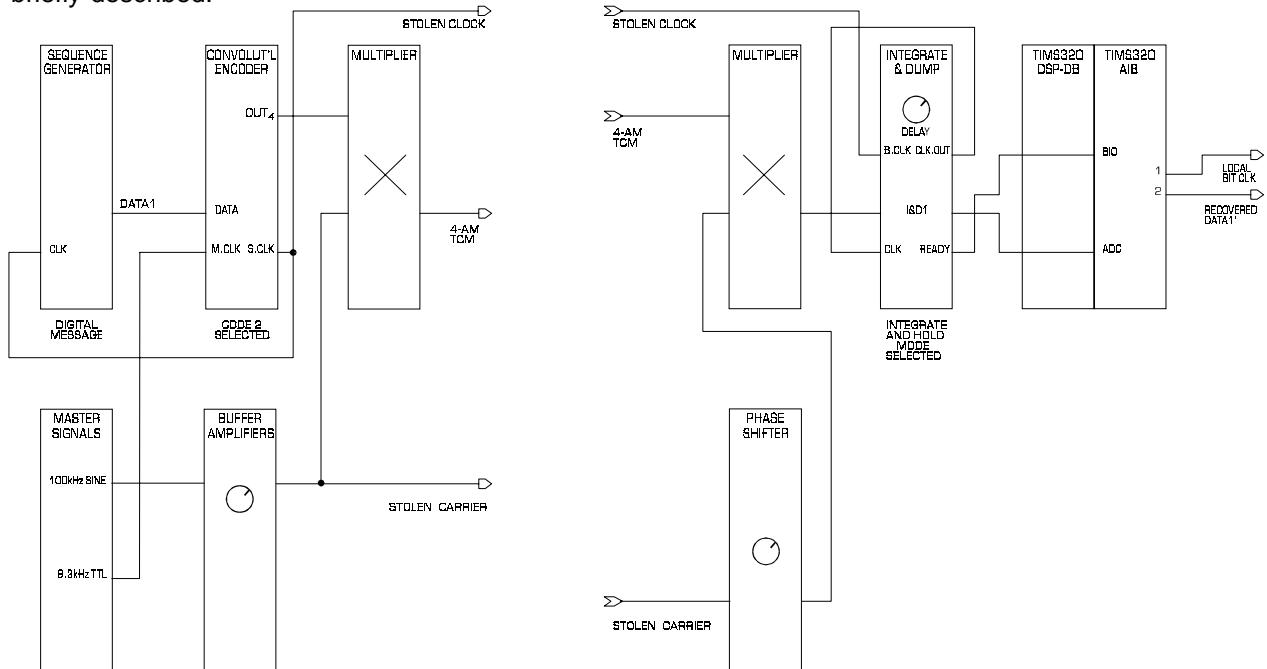

Figure 2: TCM Decoder Block Diagram
The modules required for the TIMS 4-AM TCM demodulator are patched together as illustrated in Figure 2 on the previous page.
1. The modules required for the TIMS 4-AM TCM demodulator are patched together as illustrated in Figure 2, on the first page of this chapter.